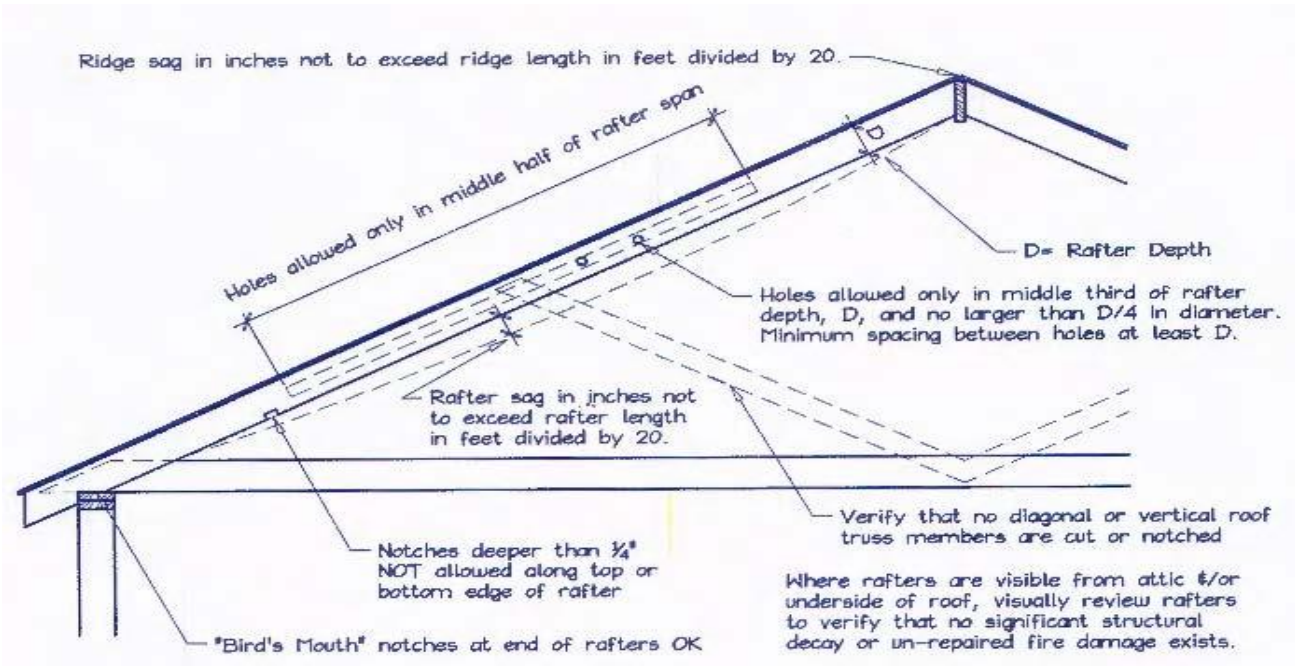

Figure 1. Roof Visual Structural Review (Contractor's Site Audit) of Existing Conditions.
1. Is the roof structure structurally sound without signs of alteration or structural deterioration or sagging, as illustrated in Figure 1.